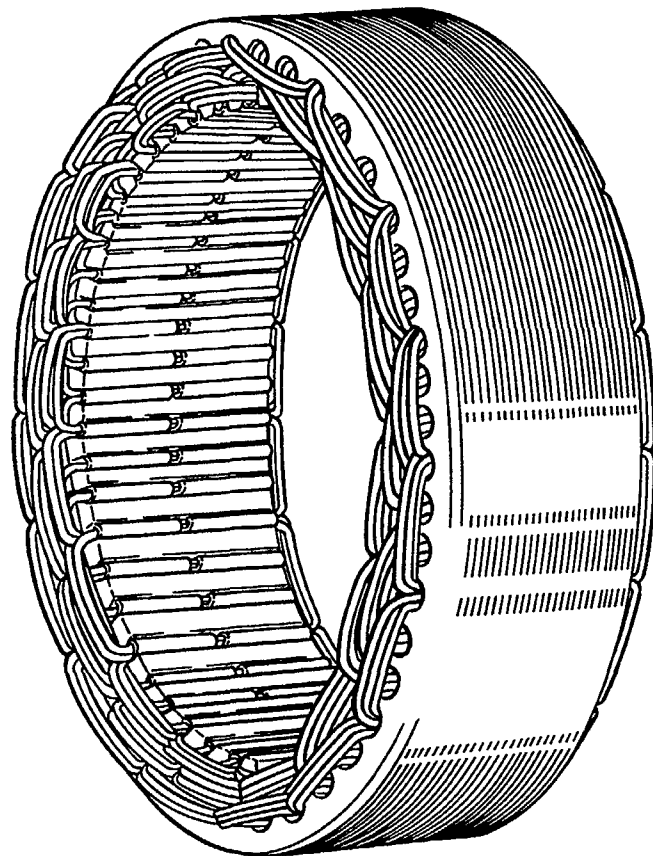

Figure 46
1. The alternator stator assembly, Figure 46, consists of three individual windings, wound on a common core or lamination. The lamination is epoxy coated to provide durable insulation.